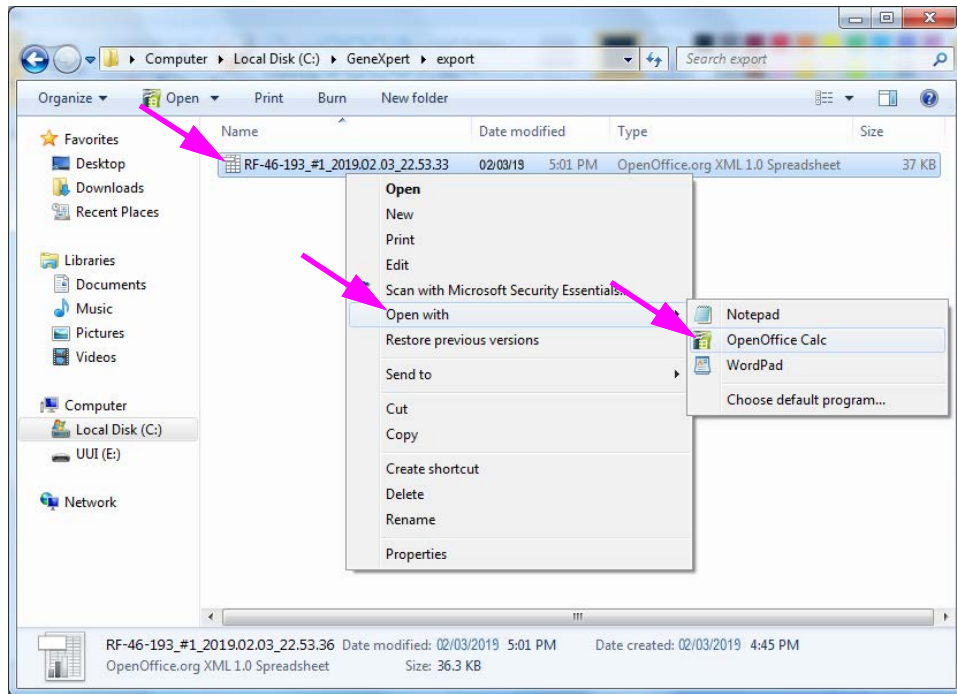

Figure 5-58. Opening a .csv File to Configure AOO (Example)
1. In the GeneXpert folder on your system, navigate to the **Export** folder. Right click on the .csv file you want to open. When the drop-down menu appears, click **Open with** and select **OpenOffice Calc**. See Figure 5-58.